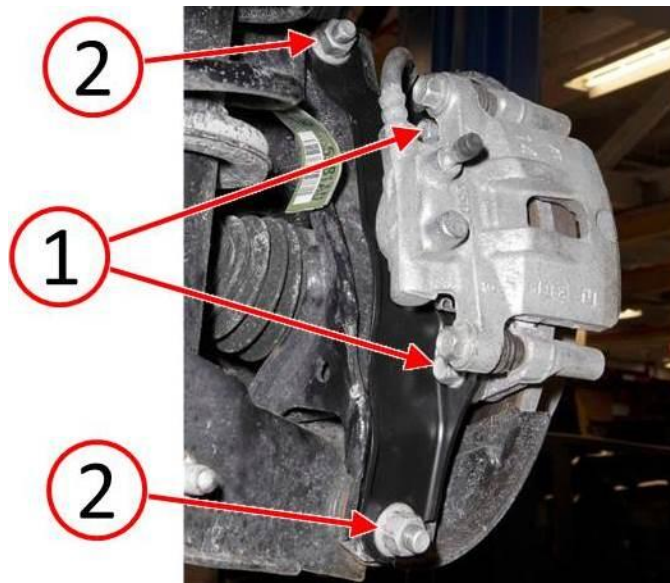

Fig. 4 Brake And Control Arm Fasteners
12. Thread the upper and lower control arm nuts fully onto the bolts until no clearance remains between the nuts, anti-vibration bracket, and trailing arm. **Do not tighten the nuts at this time** (Fig. 4).
13. Tighten the caliper anchor mounting bolts to 68 N•m (50 ft. lbs.) (Fig. 4).
18. With the vehicle resting at curb height, tighten the bolts and nuts (2) securing the upper and lower control arms to the trailing link to 105 N•m (77 ft. lbs.) (Fig. 4).